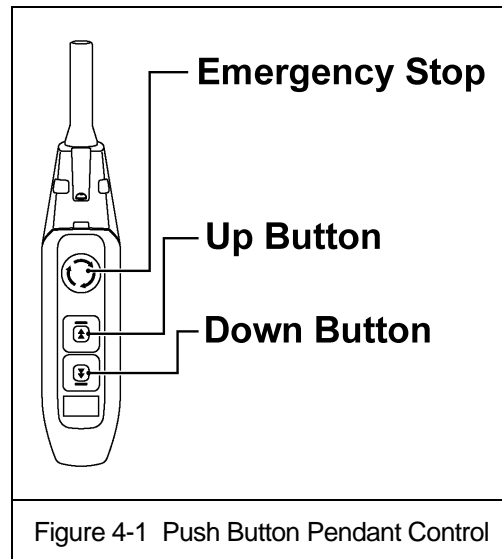

Figure 4-1 Push Button Pendant Control
- 4.3.2 Emergency Stop Button – Press the Emergency Stop Button to perform an emergency stop and lock-out of hoist motion controls or to reset the VFD as shown in Figure 4-1. Turn the Emergency Stop Button clockwise to unlock the controls and allow hoist operation. “Hbb” will appear on the dual speed unit's VFD display when the Emergency Stop Button is depressed.
- 4.3.3 Single Speed Pendant Control – When using the pendant control depress the UP button to raise the hoist load chain/hook or the DOWN button to lower the hoist load chain/hook as shown in Figure 4-1. To stop motion release the buttons.
- 4.3.4 Dual Speed Pendant Control – Pendant controls supplied with dual speed hoists have two step control buttons. For low speed depress the button to the first step and for high speed depress the button fully to the second step. Use the UP button to raise the hoist load chain/hook or the DOWN button to lower the hoist load chain/hook as shown in Figure 4-1. To stop motion release the buttons.